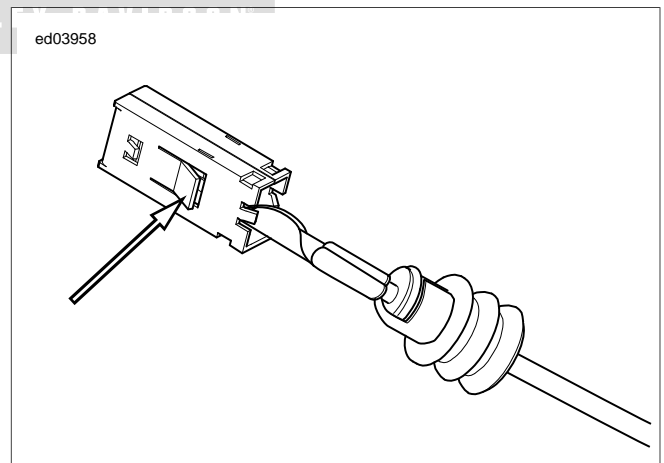

Figure B-3. Tangs: Bosch Compact 1.1M Terminal
1. See Figure B-3. Use a hobby knife to bend the tangs on each side of the terminal outward.